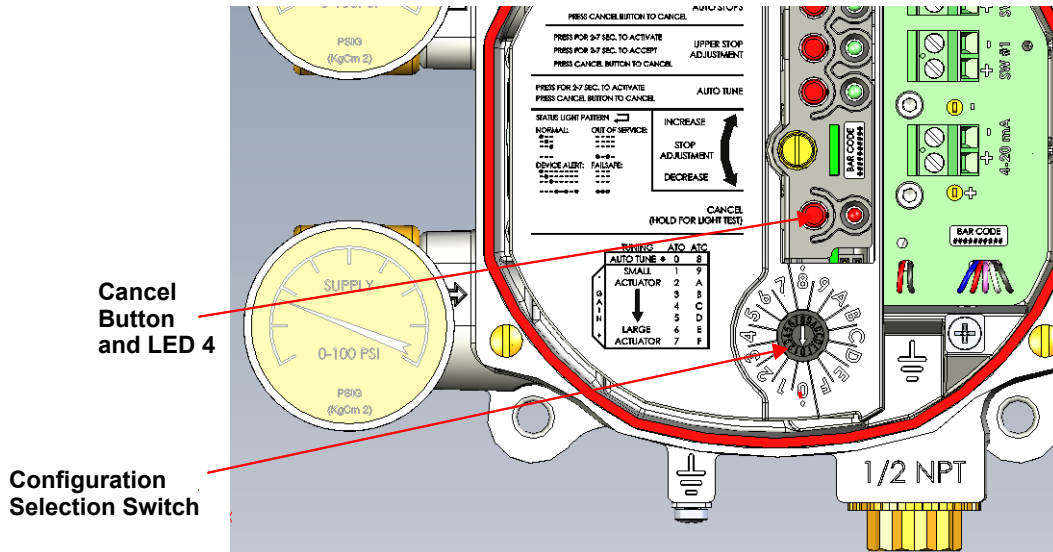

Figure 28 - Configuration Selection Switch
- Use the *Configuration Selection Switch* to select a preset tuning value (Figure 28).